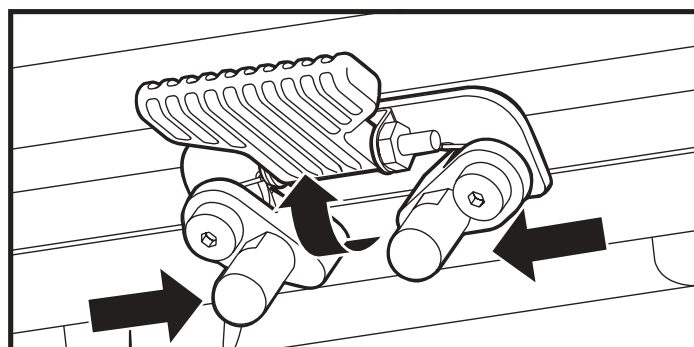

Figure 12. Seat Height Adjustment - Seat Latch Safety
4. Flip up the seat latch safety. See figure 12.